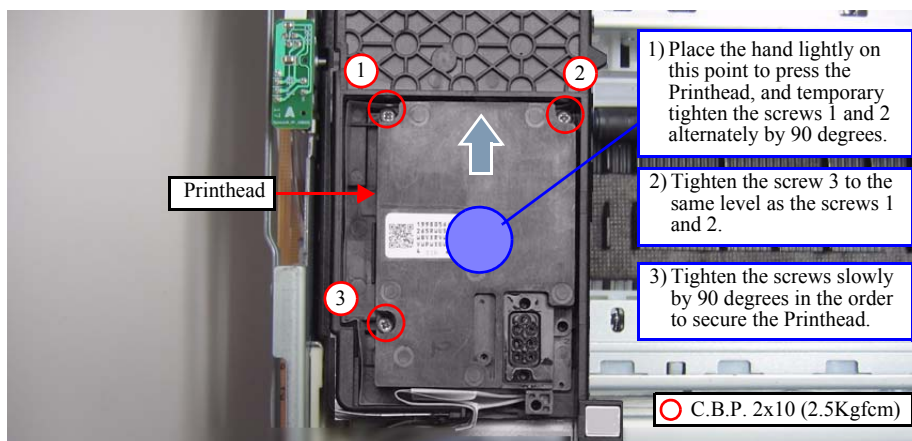

Figure 4-63. Assembling the Printhead (1)
- 3-1. Place the hand on the center of the Printhead, and align the screws (x3) with the screw holes to temporary tighten the screws 1 and 2 alternately by 90 degrees slowly while pressing the Printhead in the direction of the arrow shown in Fig. 4-63.
- 3-3. Tighten the screws slowly by 90 degrees in the order shown in Fig. 4-63 to secure the Printhead.